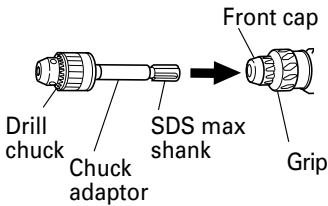

Fig. 12
- (2) Attaching chuck adaptor to drill chuck (Fig. 12)